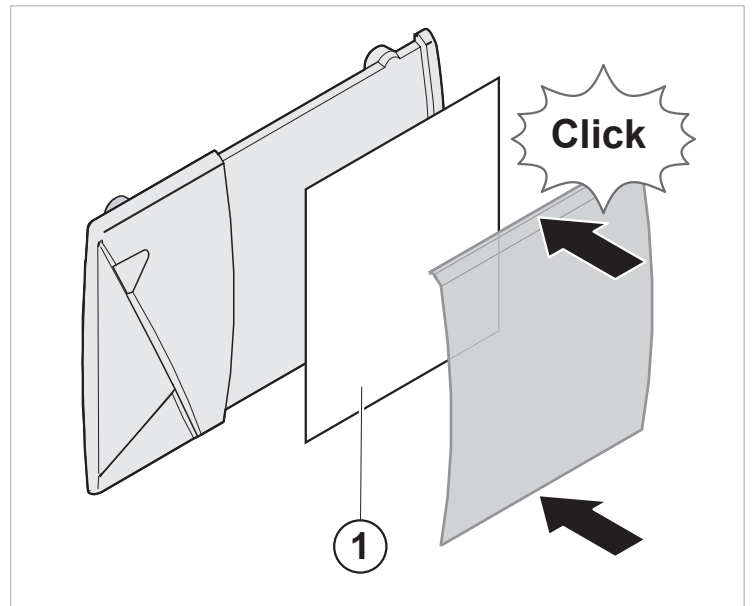

Fig. 11 Placing the tag and closing the cover again
4. Place the name tag (1, Fig. 11) under the cover.